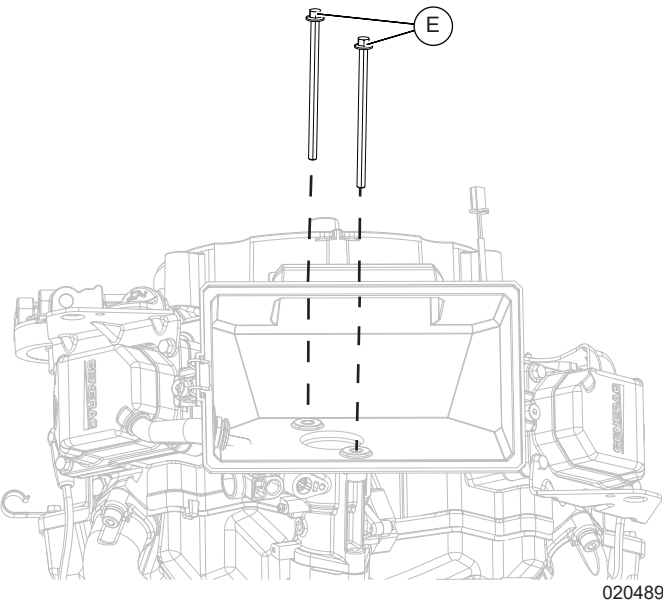

Figure 6-8. Remove Air Box Mixer Bolts
4. See Figure 6-8. Remove the two bolts (E) from inside air box base attaching air box to mixer.